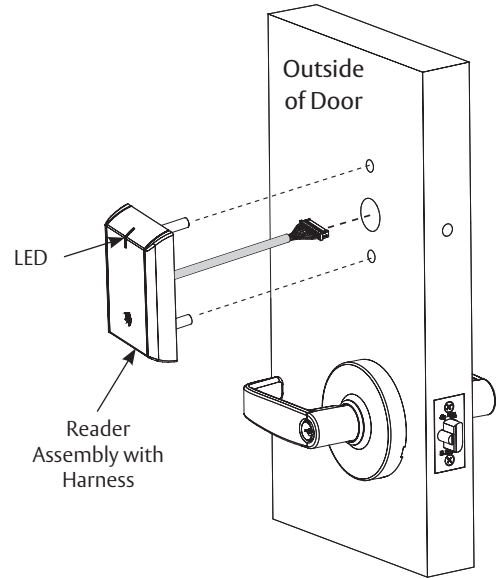

Fig. 19
- a. Orient reader so LED lens is at top. (Fig. 19)